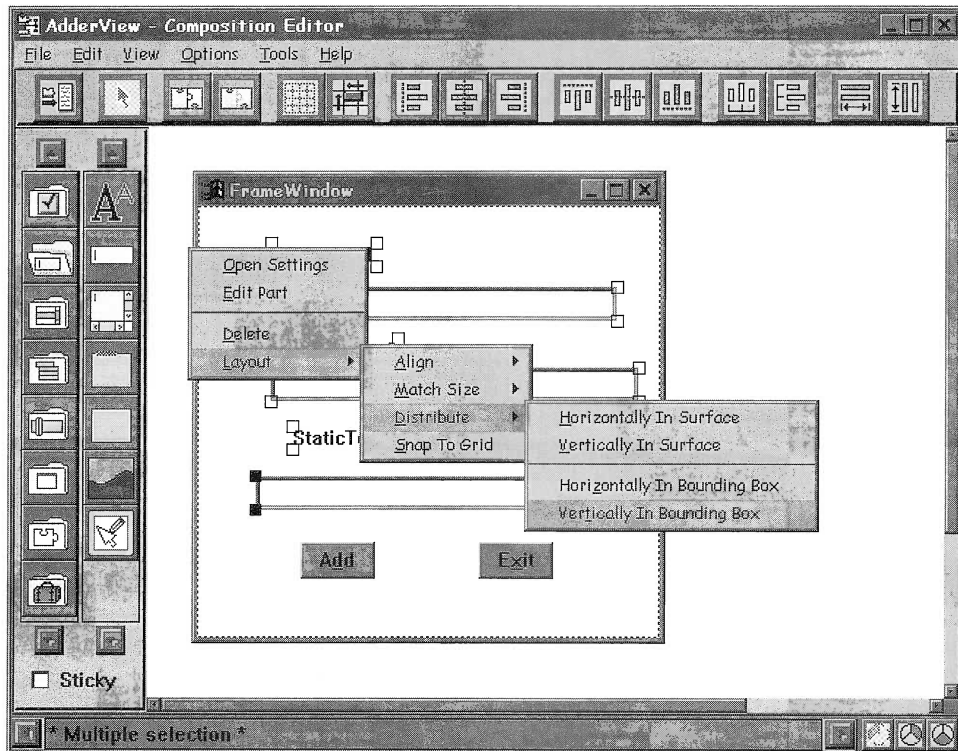

Figure 44: Aligning controls within Bounding Box
- ❑ Select **Layout, Distribute, and Vertically in bounding box** to obtain even spacing between the six controls as seen in Figure 44.